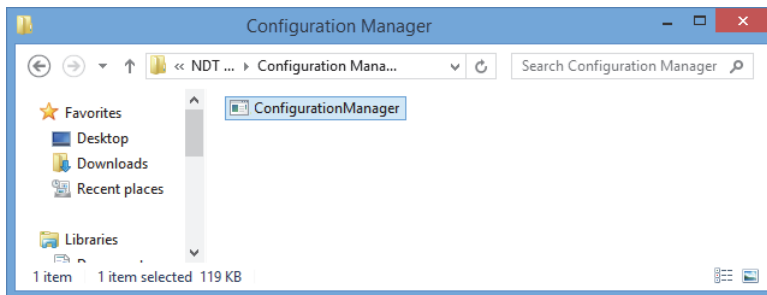

Figure 3-1 The access path to the Configuration Manager for FocusControl
1. Open the **Configuration Manager**, which can be found at the following access path (see Figure 3-1 on page 52):